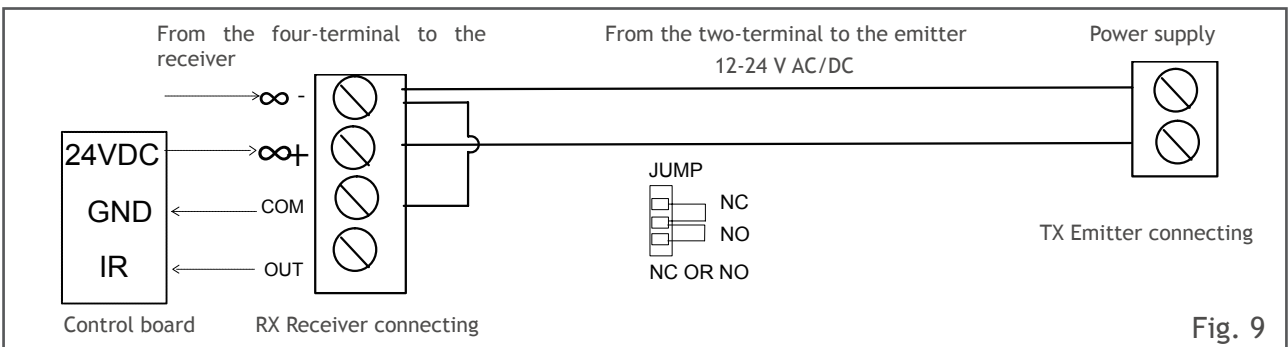

Fig. 9
- Connect the receiver and the emitter with cables according to Fig. 9.
Then connect the infrared sensor receiver to the knot 24VDC, GND and I.R. in terminal X5 (see Fig. 9).